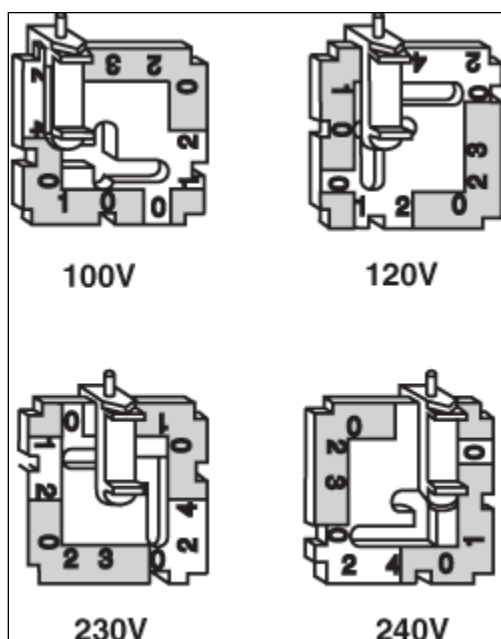

Figure 2-4: Voltage Selector Card & Indicator Pin Orientation
7. Orient the voltage selector card so that the desired supply voltage is readable at the bottom (see Figure 2-4).
8. Move the voltage indicator pin to point up (see Figure 2-4)